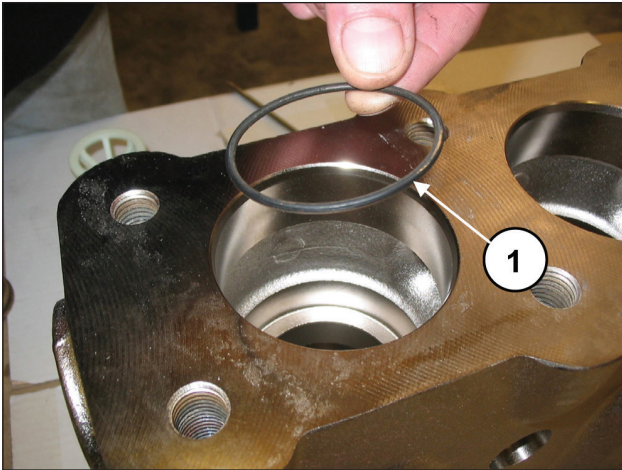

Fig. 103
Fit the O-ring, exploded view pos. 5 (pos. ①, Fig. 103).